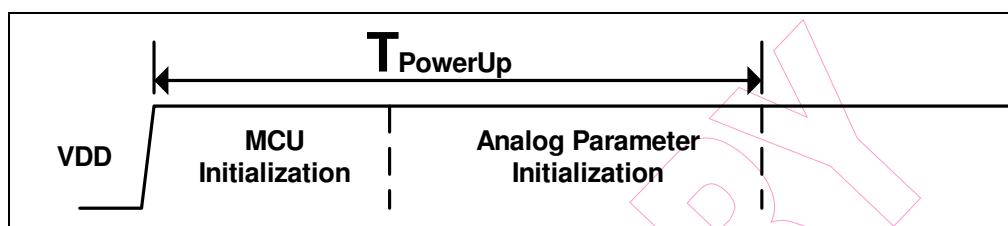

Fig. 7-1 Power-on Reset Timing Diagram
A. Power-on reset: After the touch pad is powered up, this controller will do initialization. The initialization includes MCU and analog parameter initialization. After the initial process, it will send Packet Hello to let the host know that the touch pad is ready to work. Fig. 7-1 shows the process after power up. T_{PowerUp} is between 20ms and 100ms.